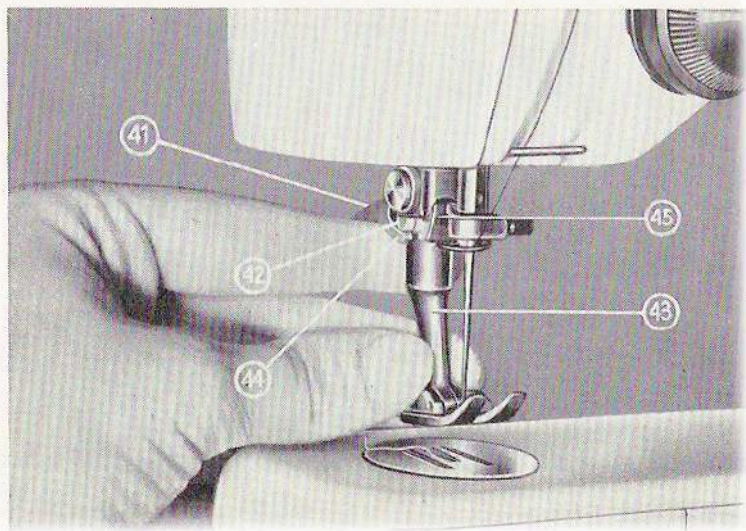

Fig. 15
a) Removal of Presser Foot Fig. 15